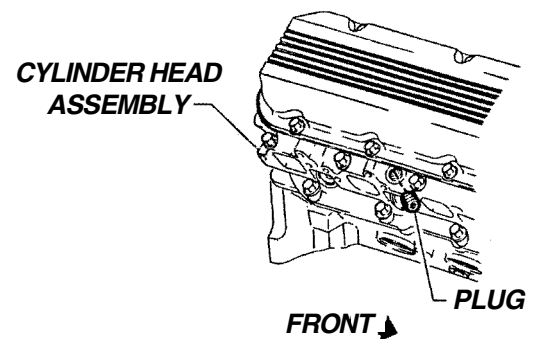

FIGURE 11
2. Install the pipe plugs into the coolant holes on the side of the heads. Torque the plugs to 15 ft-lbs. See Figure 11.